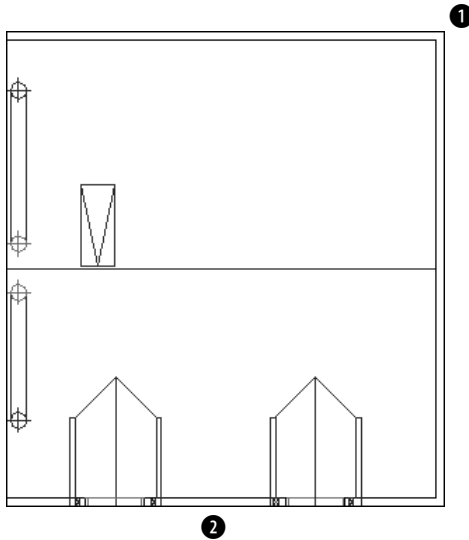

Figure 10-25: A plan view of a garage.
2. Save the file as `ab10-08.dwg` in your `AutoCAD Bible` folder. This drawing is the plan view of a garage, as shown in Figure 10-25. Turn on polar tracking by clicking POLAR on the status bar. Click SNAP on the status bar and then right-click SNAP to make sure that PolarSnap is on (the PolarSnap item will be unavailable if it is already on); otherwise, choose PolarSnap. Turn on OSNAP and set a running object snap for endpoints.
3.  Choose Stretch from the Modify toolbar. At the `Select objects:` prompt, pick **1** in Figure 10-25. At the `Specify opposite corner:` prompt, pick **2**. The prompt notifies you that it found 32 objects. Press Enter to end object selection.